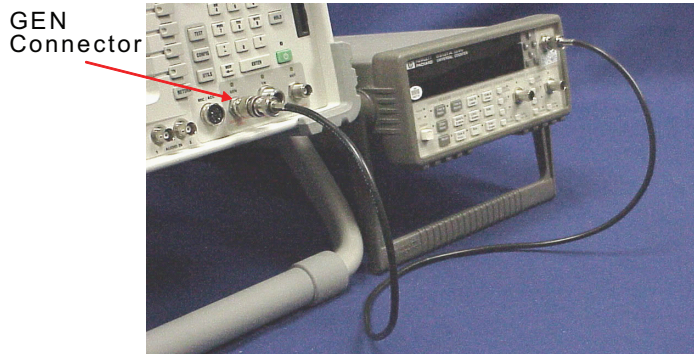

Fig. 4-40 TCXO Adjust Calibration Setup
2.	Configure equipment. Refer to Fig. 4-40 as needed.